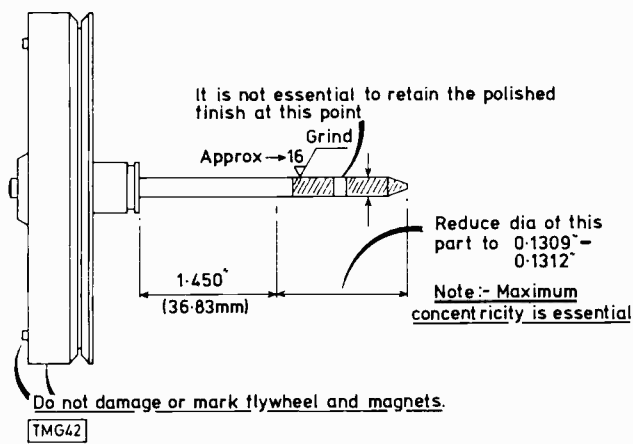

Fig. 2: Capstan reduction details.
Now look at the top of the chassis. Locate the capstan, and remove the rubber washer 154 (199 in the N1501 manual's exploded view – bracketed numbers hereafter refer to the N1501). Gently remove the drive belt 163 (209) from pulley assembly 219 (238) etc. (see photo 5). Note that plate 520 (522) locates over the lug on bracket 170A (217). Pull the flywheel and capstan 162 (208) etc. from bearing 155 (200). Look out for nasty greasy bits and also falling bearing plates etc. The idler wheel assembly 142 (186) is best removed for replacement (if necessary) at this point. Put the flywheel assembly aside for machining (see photo 6). The diameter of the capstan has to be reduced to 0.1312in. (± 0.0001) – see Fig. 2. This is a precision job and must be done by a firm with the necessary equipment. We got A.C. Park Precision Ltd., Holland House, Burmester Road, Tooting, London SW17 (telephone 01-947 2942) to do the job.